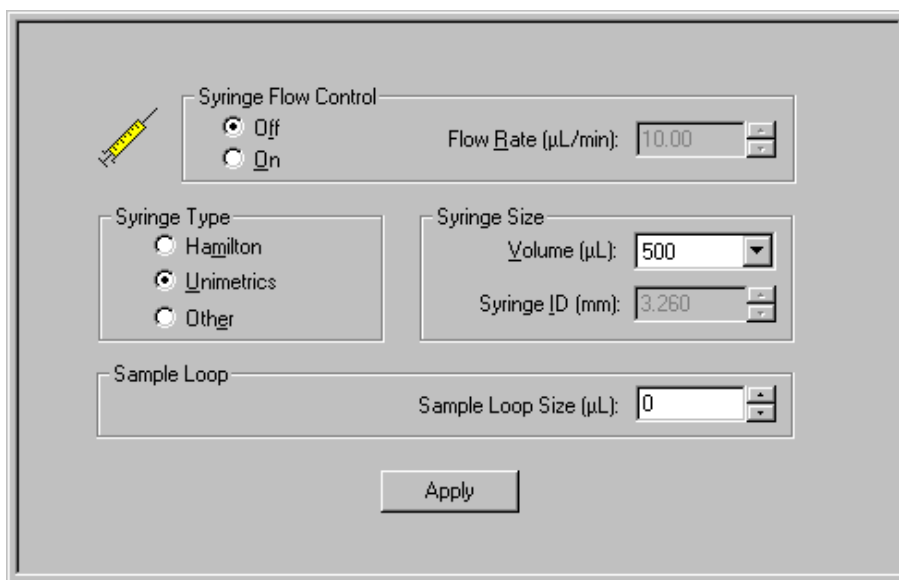

Figure 4-7. Syringe Pump and Sample Loop view, showing auto loop injection setup
- a. Choose **Setup > Syringe Pump & Sample Loop** to display the Syringe Pump and Sample Loop view in the top right corner of the workspace. See Figure 4-7.